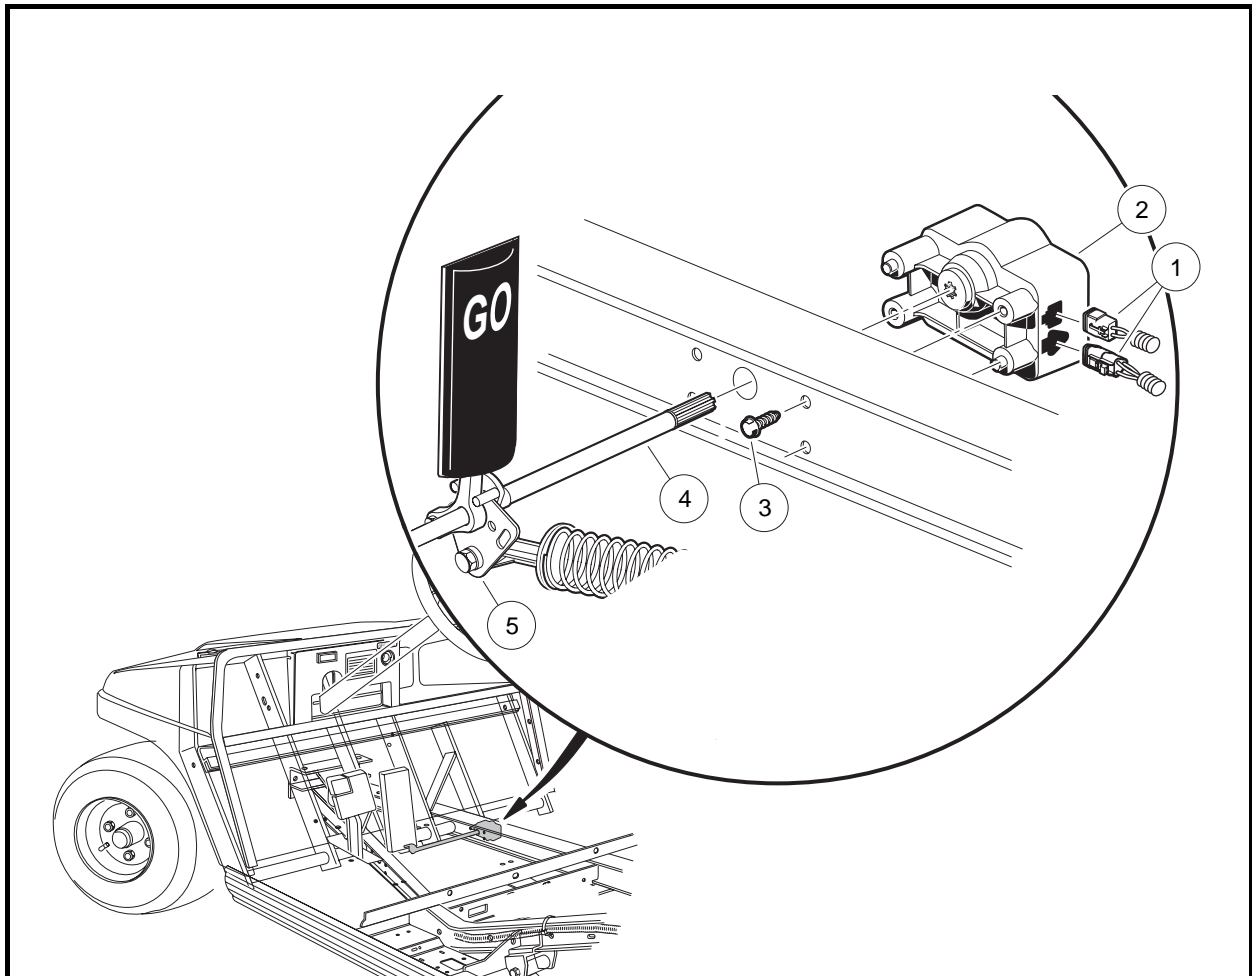

Figure 13-4 Motor Controller Output Regulator (MCOR) Mounting
3. Disconnect the two-pin and three-pin connectors (1) from the MCOR (2) (**Figure 13-4, Page 13-5**).
4. Remove the hex-head screws (3) connecting the MCOR to the frame I-beam.
6. Push the drive bar (4) into the hole in the I-beam to disengage it from the accelerator pivot rod (5).
1. Insert the splined end of the drive bar (4) through the hole in the passenger-side frame I-beam as shown (**Figure 13-4, Page 13-5**).
3. Place the MCOR (2) onto the splined end of the drive bar (**Figure 13-4, Page 13-5**). See following **NOTE**.